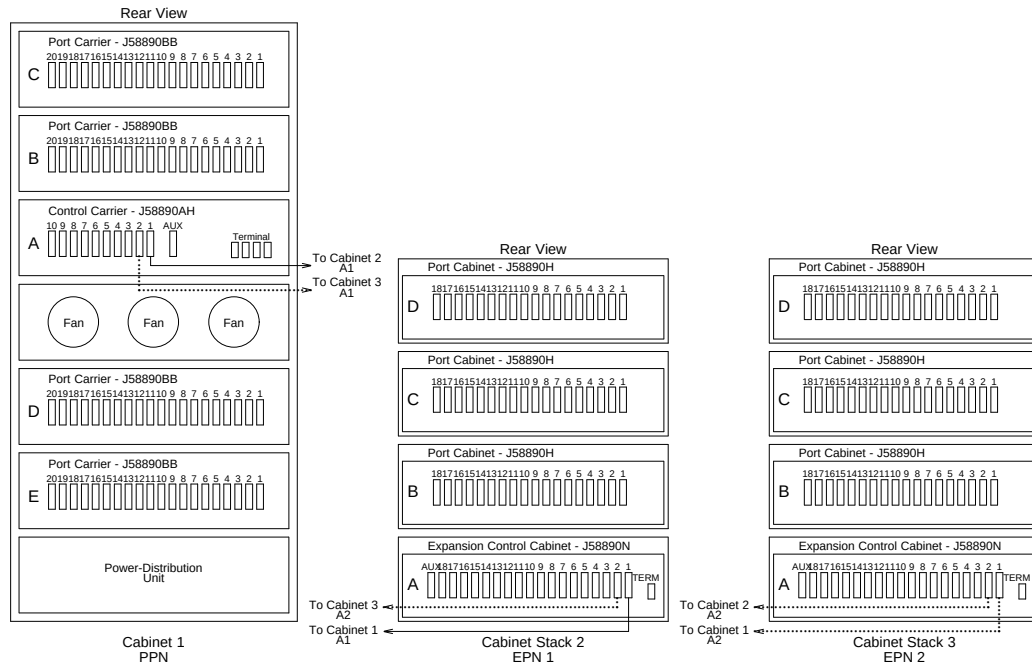
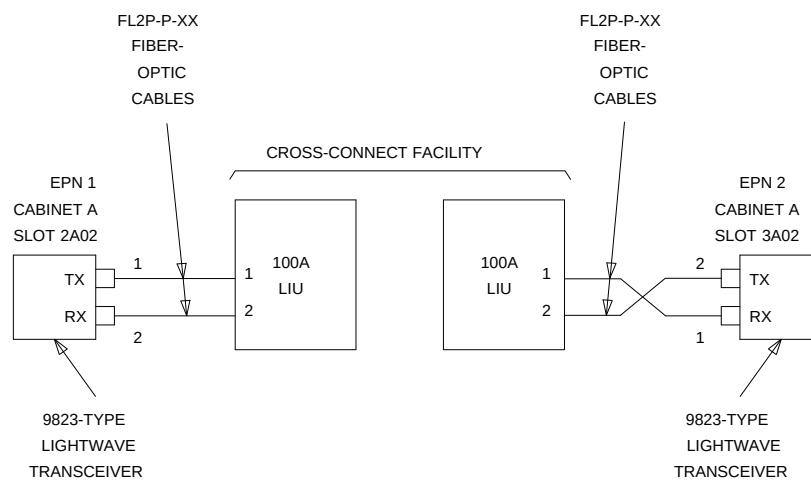

Figure 8-12. Standard-Reliability DEFINITY ECS Release 5 with Two or Three Port Networks
Figure 8-15. Fiber-Optic Connections EPN1 to EPN2
1. Behind control carrier A of the multicarrier PPN (see Figure 8-12 through , Figure 8-15):